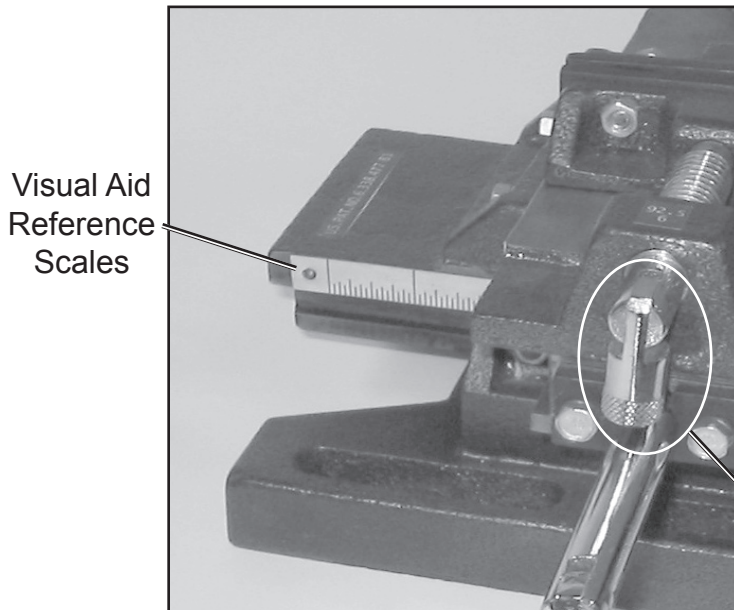

Figure 3
2. Turn the Thumb Screw eight turns per inch (1/8" per turn). Match up with the visual aid reference scales (SAE) which are located on all four sides of the Vise. **See Figures 3 & 4.**